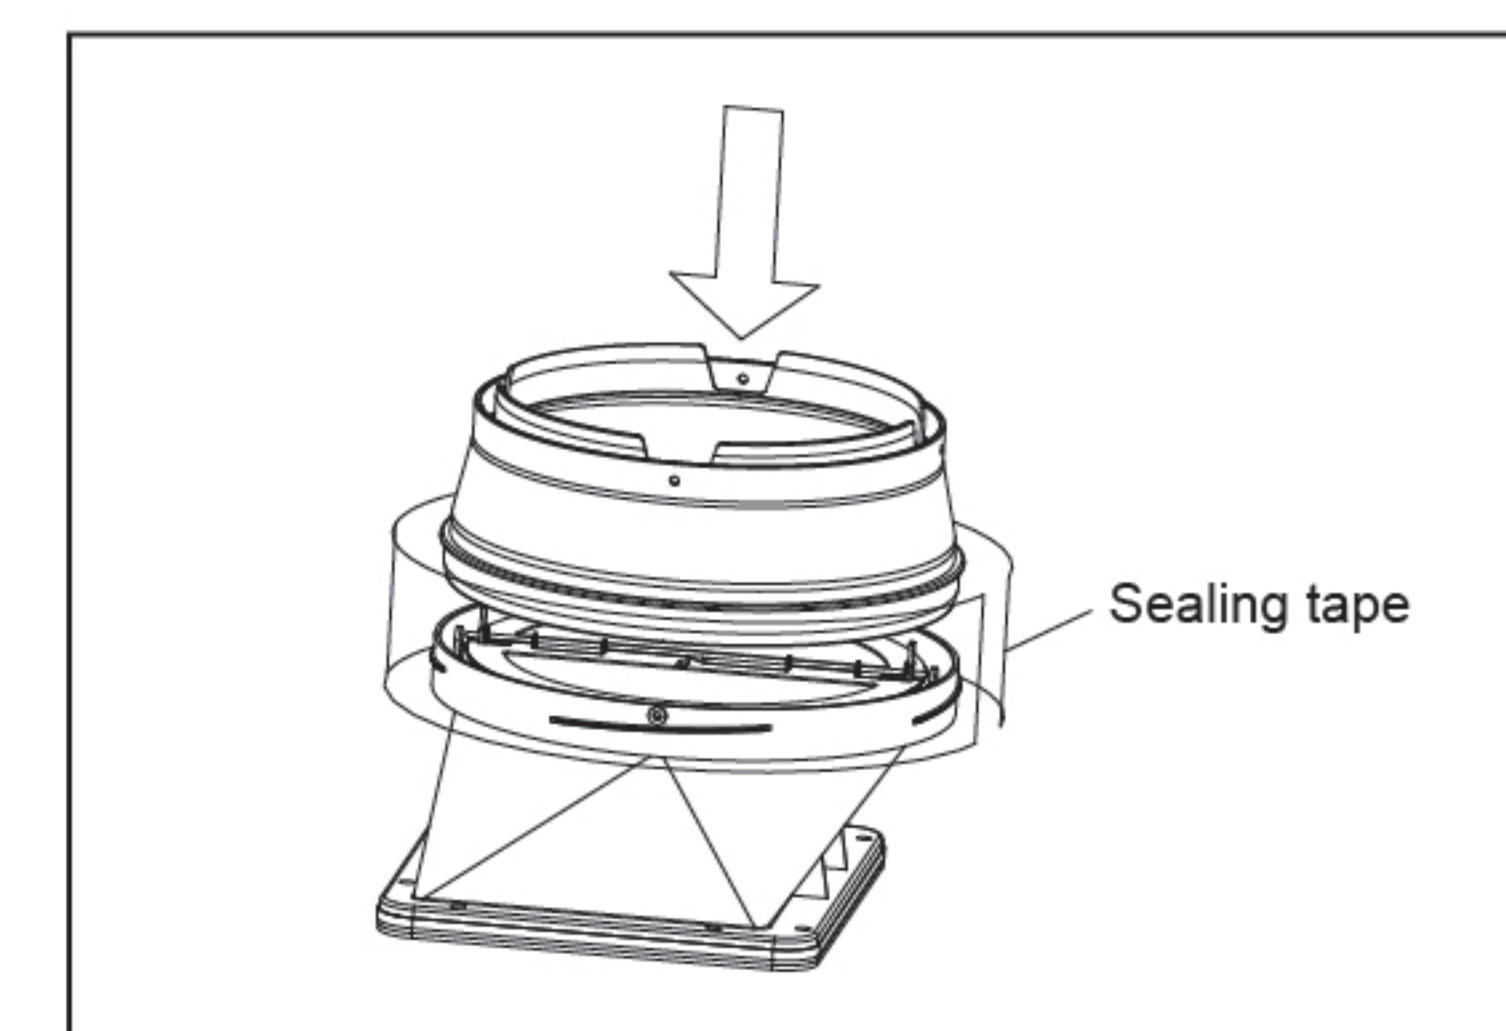

fig 4
- Remove the outlet housing connecting rings from the plastic packaging bag of the smoke tube, put one end of the large diameter on the outlet housing, and fix and seal the outlet housing and the outlet housing connecting rings with Sealing tape. (fig4)